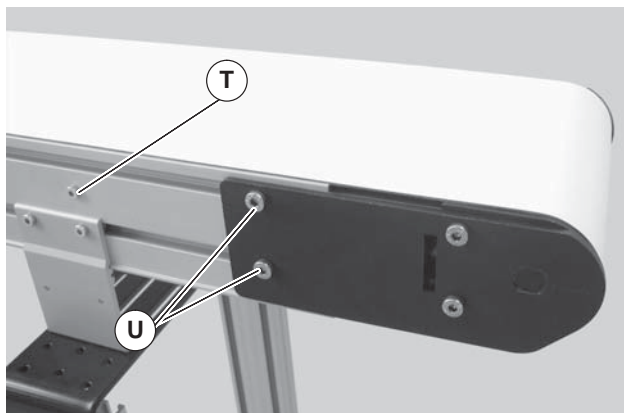

Figure 37
2. On the side of conveyor to be adjusted, loosen two (2) tail clamp screws (Figure 37, item U).